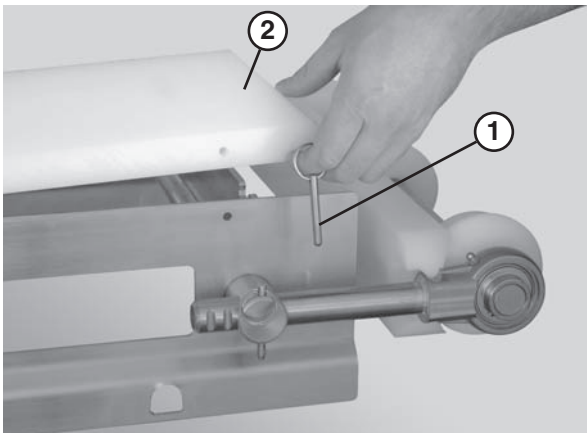

Figure 50
1. Remove the pull pins (**Figure 50, item 1**) that connect the guide (**Figure 50, item 2**) to the frame.